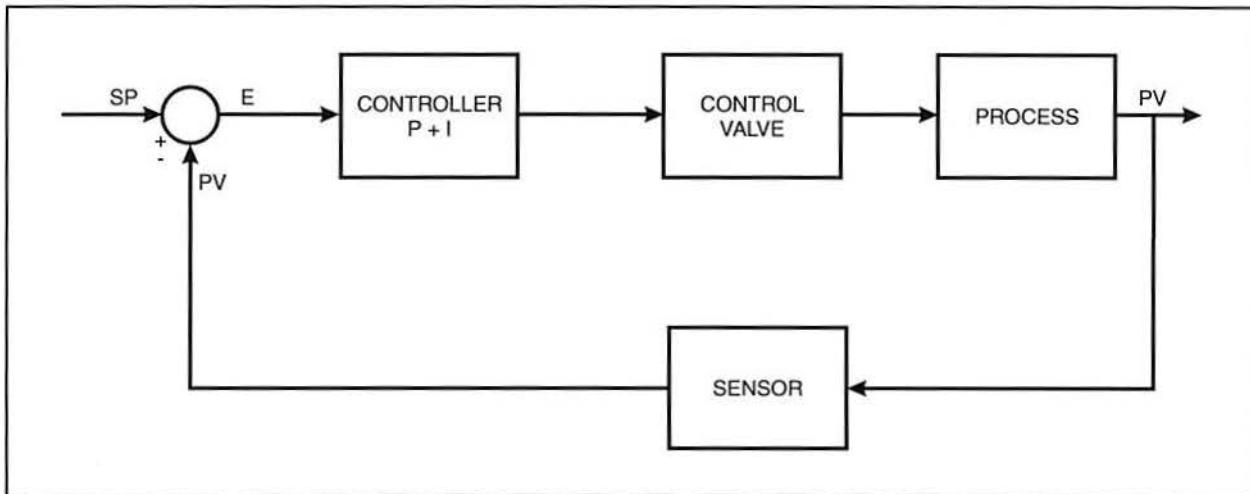

Figure 49. Block Diagram of a Process System Using PI Control
Proportional-Integral (PI) control combines proportional and integral control to provide an immediate response to error with no offset. Figure 49 shows a block diagram of a process system that uses PI control. The controller receives the feedback signal and determines the required combination of proportional control and integral control necessary to eliminate the error. The output is then sent to the final control element (valve) to control the process.